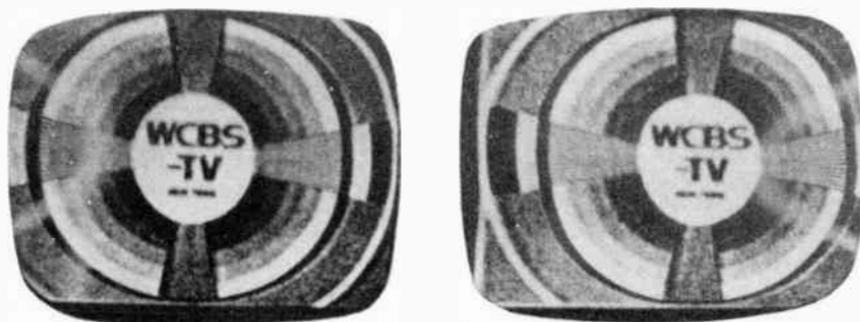

Fig. 4-F. Foldover can appear at left side of screen (pix at left) or at right side (see pix at the right).
**SYMPTOMS:** Foldover appears on the left or right side of the picture and can be shifted slightly by adjusting the horizontal-hold control or the phasing slug on some types of horizontal-oscillator transformers. See Fig. 4-F.